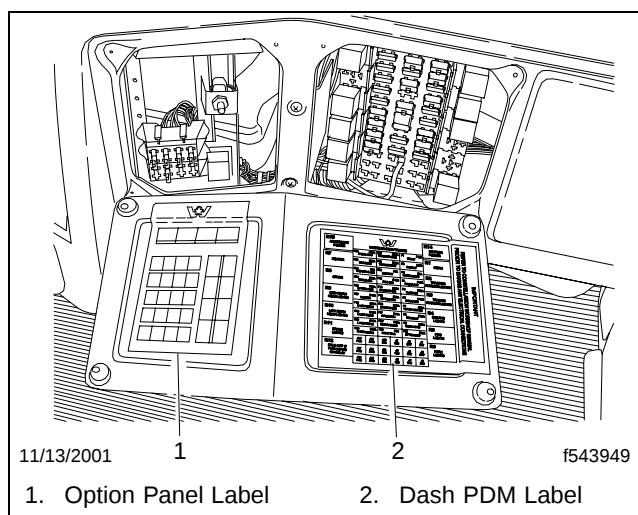

Fig. 3, Dash Panel Electrical Labels
9. Attach the new dash PDM label on the inside of the access panel. See **Fig. 3**.